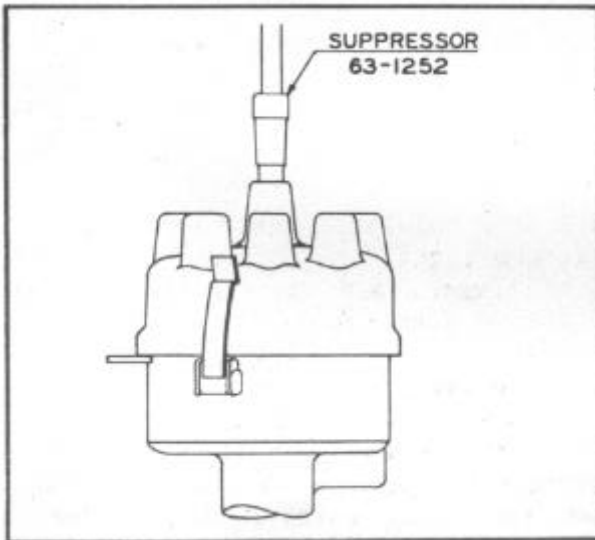

FIGURE 38
2. Install suppressor in center of hole of distributor cap. Place high tension lead in top of suppressor. Be sure the suppressor and the lead are fastened securely. (Figure 38).